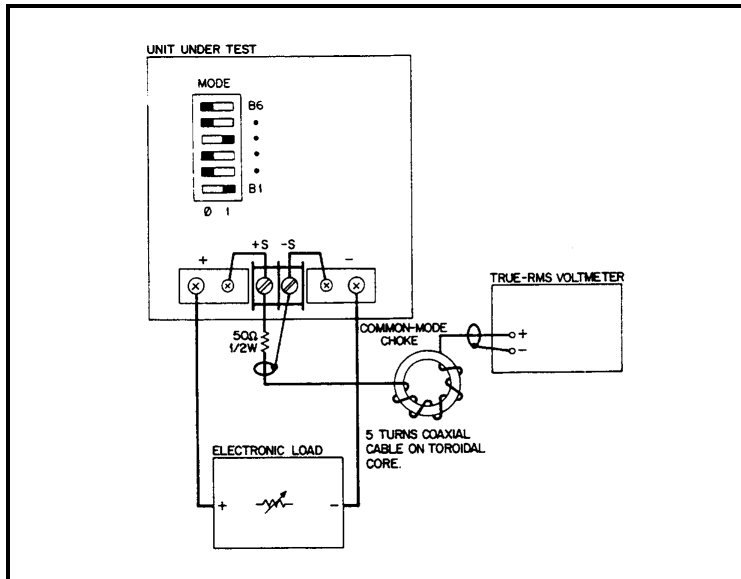

Figure 2-4. RMS Measurement Test Setup, CV PARD Test
RMS Measurement Procedure. Figure 2-4 shows the interconnections of equipment to measure PARD in Vrms. To ensure that there is no voltage difference between the voltmeter's case and the unit's case, connect both to the same ac power outlet or check that the two ac power outlets used have the same earth-ground connection.
- a. Connect the test equipment as shown in Figure 2-4. Operate the load in constant resistance mode (Amps/Volt) and set resistance to maximum.